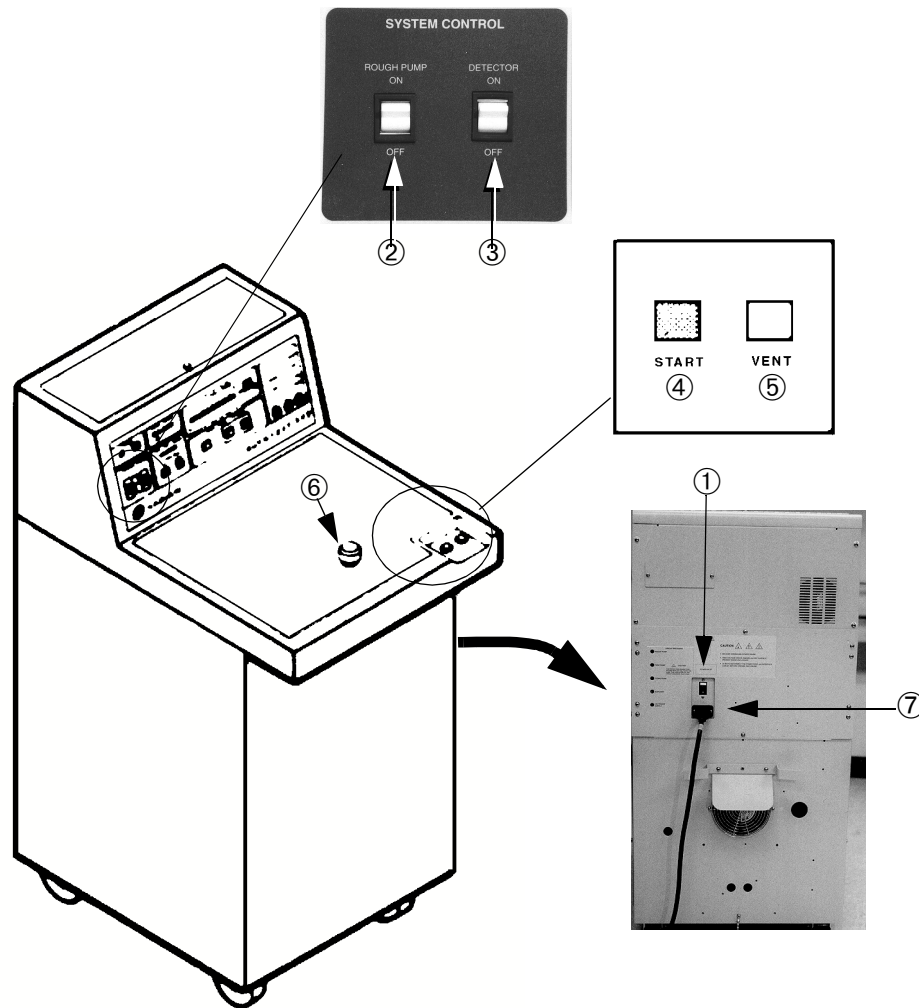

Figure 3-2 Start-Up Controls
Figure 3-2 shows the important 947/948/960 operation controls for start up and power. For circuit breaker descriptions, refer to “Rear Panel Power Connection and Circuit Breakers” on page 1-9.
Refer to Figure 3-2 and follow the start up procedure, listed in the next Section, and in “Calibration and Sensitivity Checks” on page 3-11 procedure to put the 947/948/960 in a *Ready for Operation* state from the *All Systems off* condition.
2. Place the test port plug in the test port opening ⑥. Refer to Figure 3-2 on page 3-8.